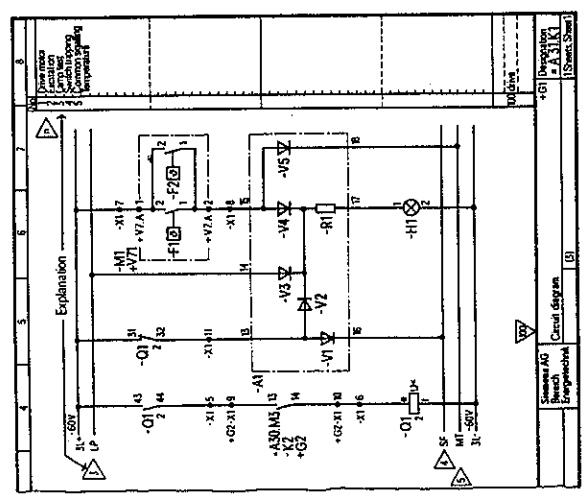

Fig. 32 Schematic diagram with the explanatory notes compiled in a table
- or by placing a number enclosed by a triangle, e.g. ▽, at a suitable point in the schematic diagram, in conjunction with a table shown at the right-hand side. This gives the No. and a note, e.g. "3 Lamp test" in Fig. 32.